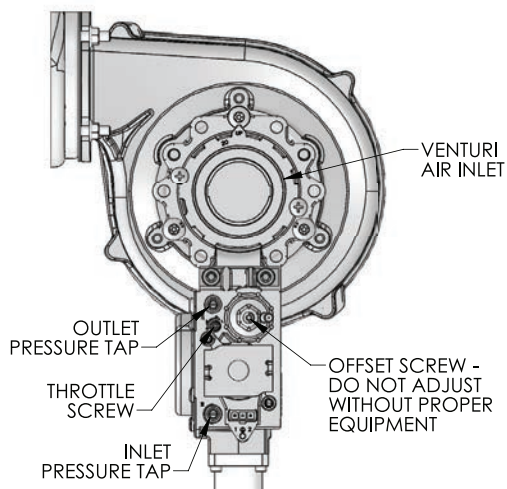

Figure 5.2: PBC-34™ Gas Valve and Venturi Detail
2. Table 5.3 shows the maximum and minimum fuel gas supply pressure to be measured at the gas valve inlet pressure tap. See figure 5.2.
- c. Using a flat screwdriver, turn the screw inside the inlet tap fitting (see Figure 5.2) one turn counter clockwise.
1. Figure 5.2 is an illustration of the gas valve/venturi assembly for the Series PBC™ boiler.
- a. Adjustments should not be made to the gas valve without instrumentation to measure carbon dioxide (CO₂) and carbon monoxide (CO) emissions in the vent pipe.